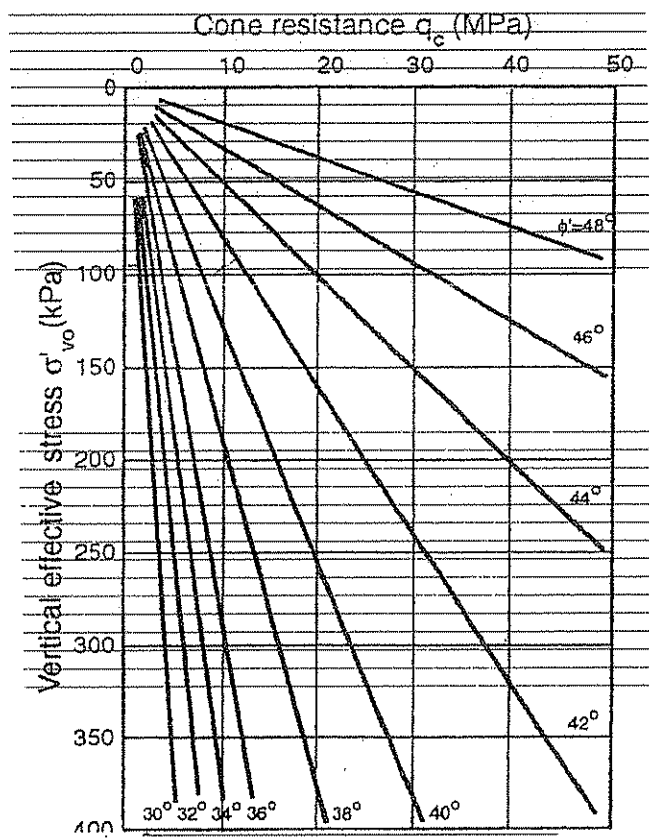

Figure 1. Correlation between cone data and angle of internal friction (Robertson and Campanella, 1983)
- Estimate angle of shearing resistance of the soil (ϕ') at depth 7.5 m using the graph given in Figure 1.
- Estimate ϕ' at depth 7.5 m from Figure 1 where p'_o = effective overburden pressure;